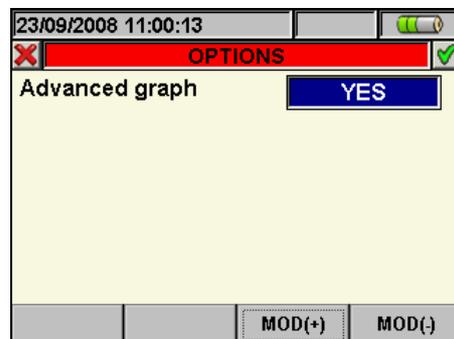

Fig. 180: Options (Advanced Graph)
- The **F4** key (or the **OPTIONS** item on the display), to access the page for the activation of the “Advanced Graph” (Fig. 180)